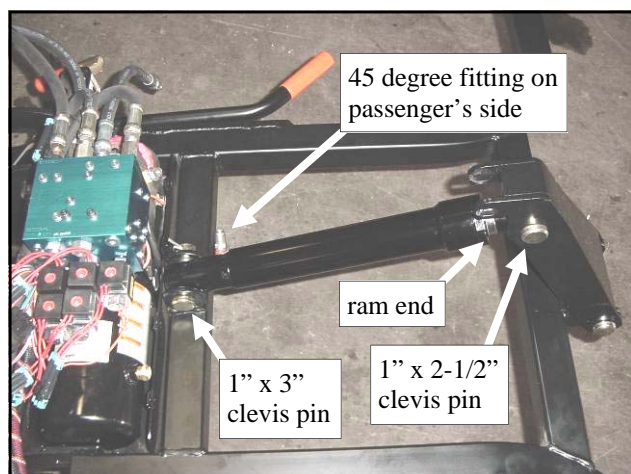

Fig. 7.2 (view of lift cylinder)
7.2 Per fig. 7.2, attach the final hydraulic cylinder (small, single-acting) to the front section of the lift arm making sure that the ram end of the cylinder is up or towards the right as shown in the photo. Note: the 45 degree fitting should be towards the passenger's side. Use a 1" diameter x 2-1/2" long clevis pin and cotter pin.
7.3 Per fig. 7.2, attach the bottom (stationary) end of the cylinder using a 1" diameter x 3" long clevis pin and cotter pin.